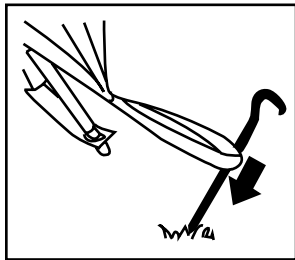

Figure 13A
13. Stake down the tent (Figures 13A & 13B)